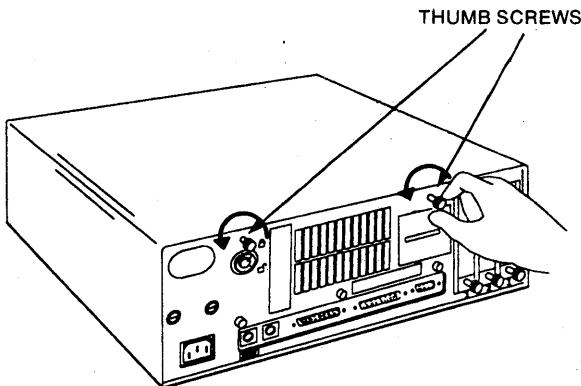

Figure 17: Model 50 Cover Mounting Thumb Screws
5. Locate the two cover mounting thumb screws on the back of the Model 50, as shown in Figure 17: